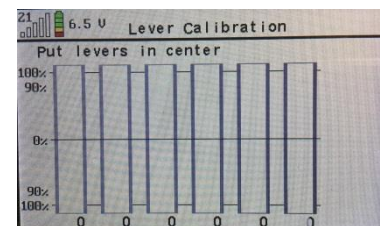

Figure: 20
- Press the ✓ button and you will be taken to the next screen. It says **Put levers in center**. Leave all the levers in their middle position; do not operate them (see figure 20).